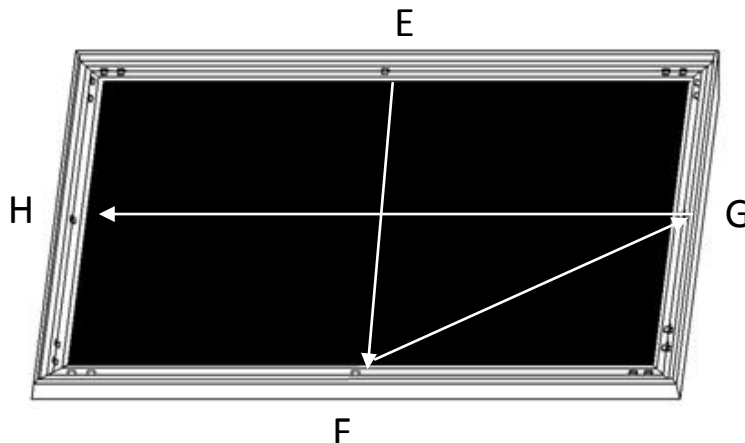

Fig.9
- (4) Place a fix plate in the center of each side in the following order E→F→G→H. (Fig.9)